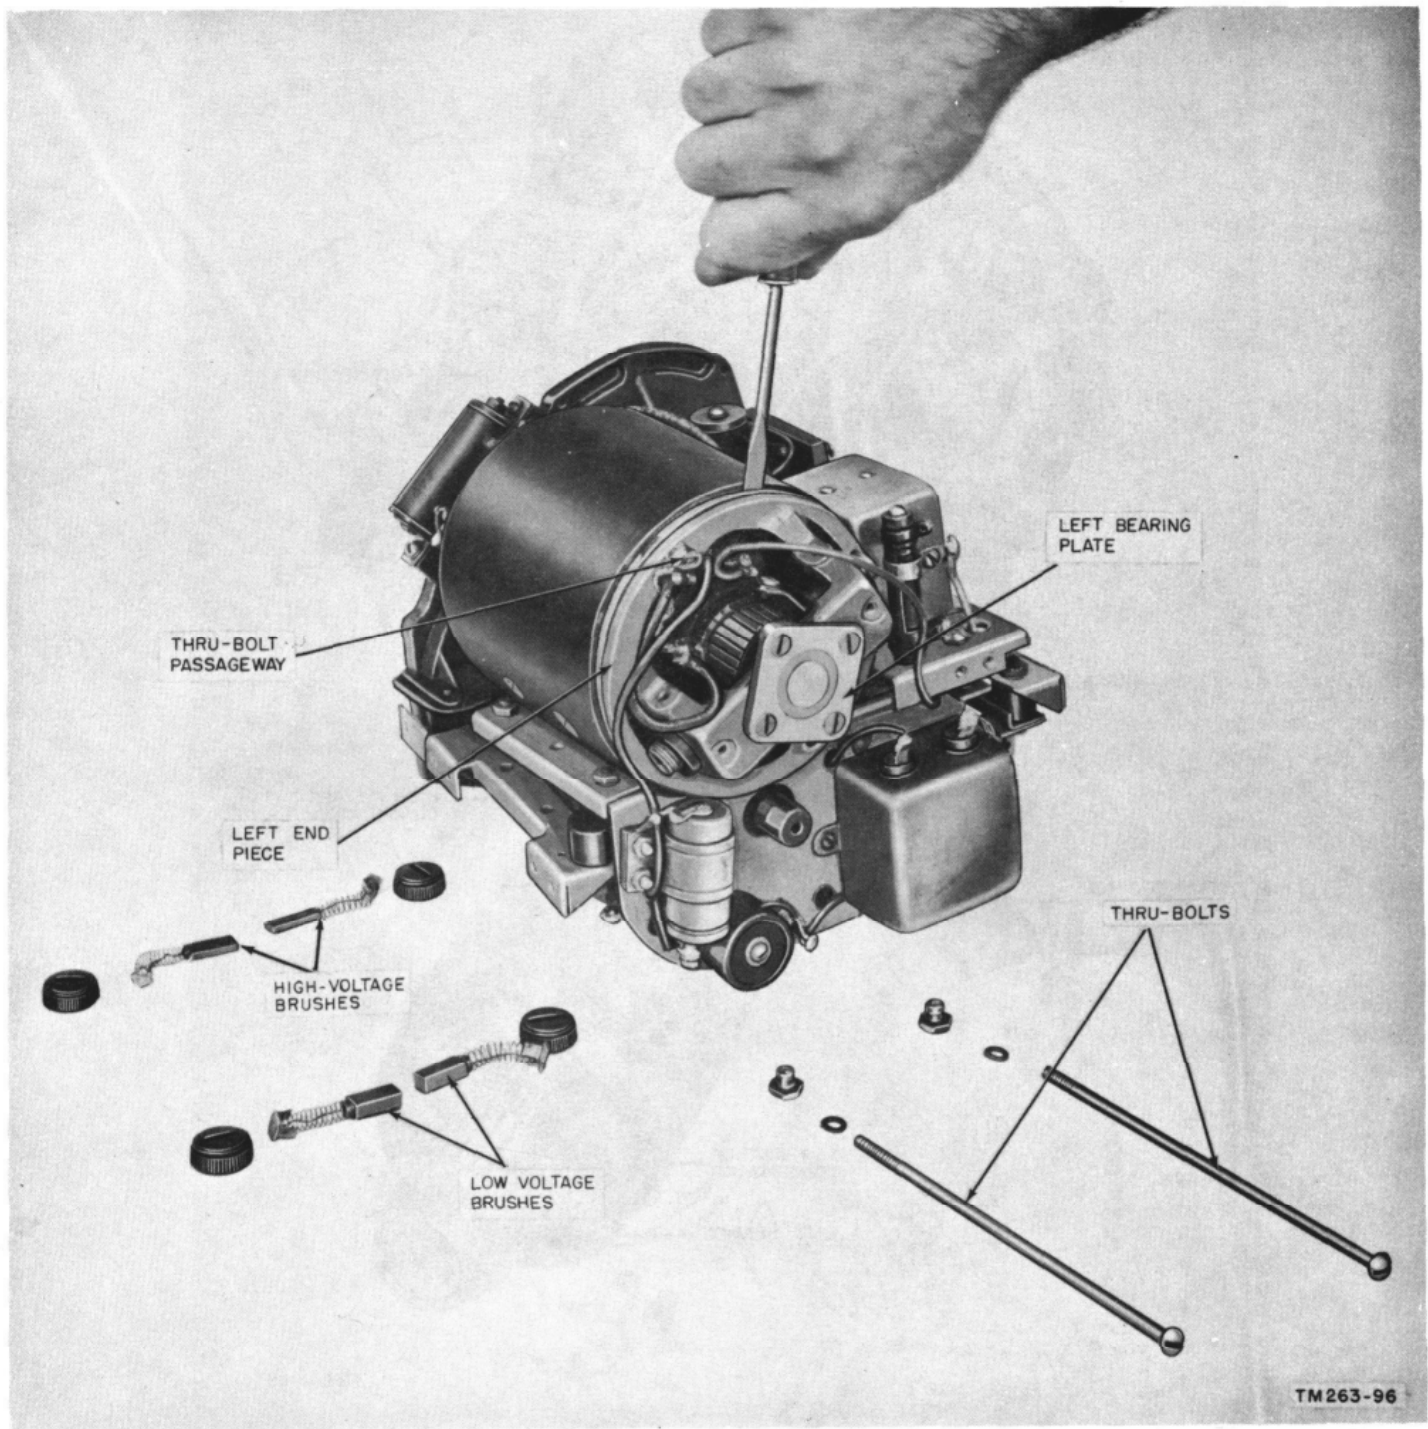

Figure 154. Prying off generating unit left endpiece of Generator GN-58-(*).
e. Remove the two through-bolts from the left generating unit endpiece (fig. 154).